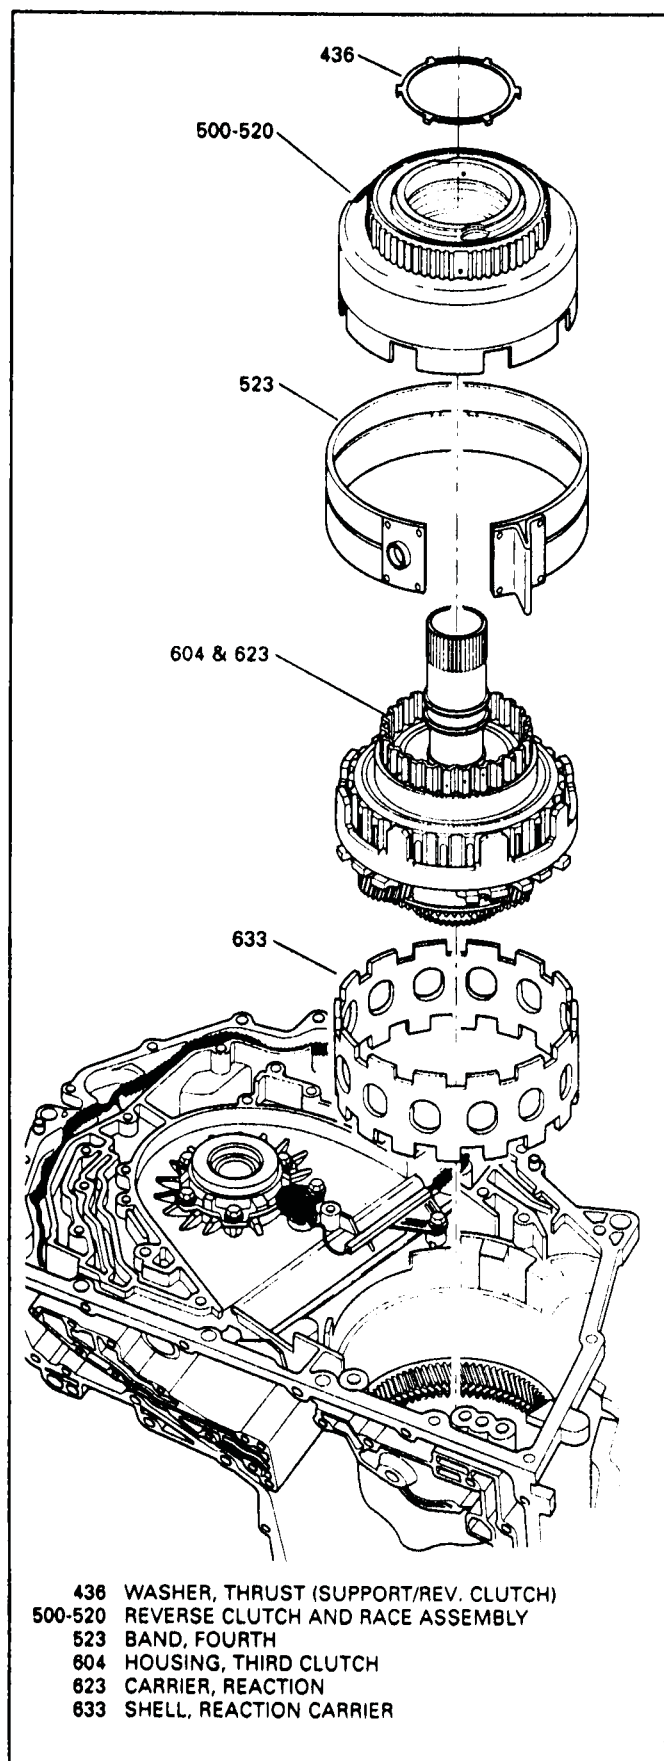

Figure 102
1. Install the reaction shell (633) into the forward clutch housing, with the small teeth facing down (See Figure 102)
3. Twist the housing to install and ensure proper seating. The reaction carrier teeth must seat in reaction shell. Refer to Figure 102.
5. Install 4th band into case, as shown in Figure 102. The band must be seated on the anchor pin properly, with the servo pin seat toward the servo bore in the case.
6. Install reverse clutch housing and 2nd sprag assembly. External lugs on the reverse housing must seat into reaction sun shell (620), and reverse clutch teeth must engage and seat on the 3rd clutch hub (See Figure 102).
7. Install thrust washer (436) on top of reverse clutch housing with the tabs pointing down (See Figure 102).